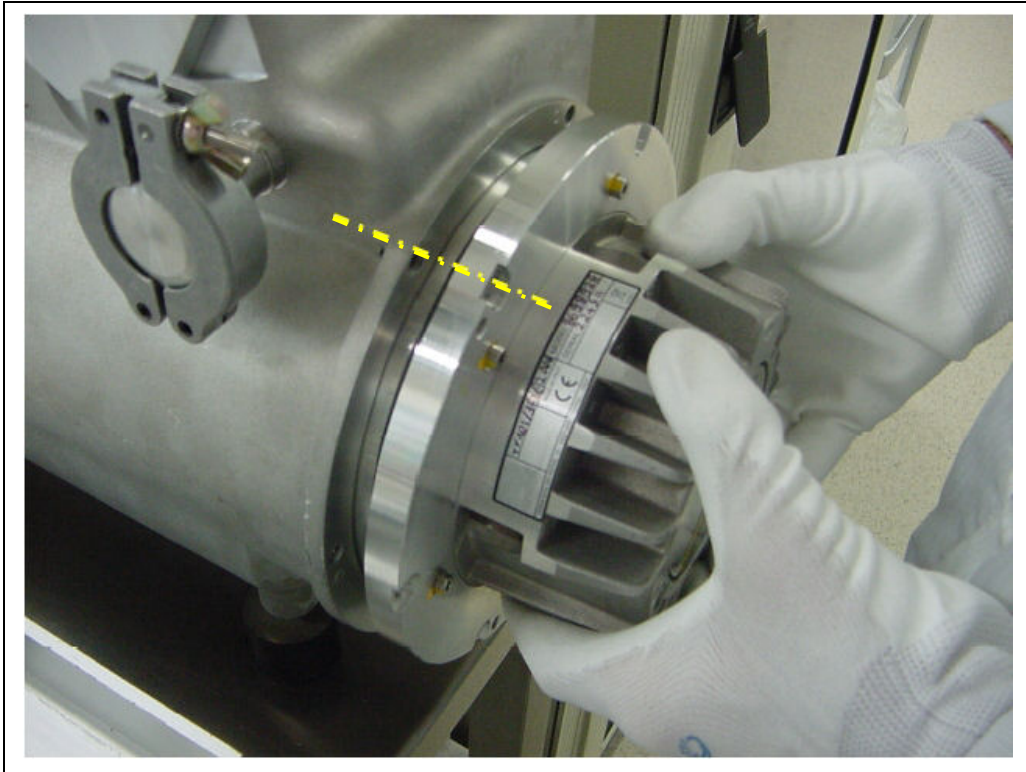

Figure 35
1. Insert the pump into the chamber carefully and without tilting it. Align the 6 insertion smooth holes of the pump flange with the 6 threaded holes in the chamber flange (Fig. 35), in order to obtain the desired foreline orientation.